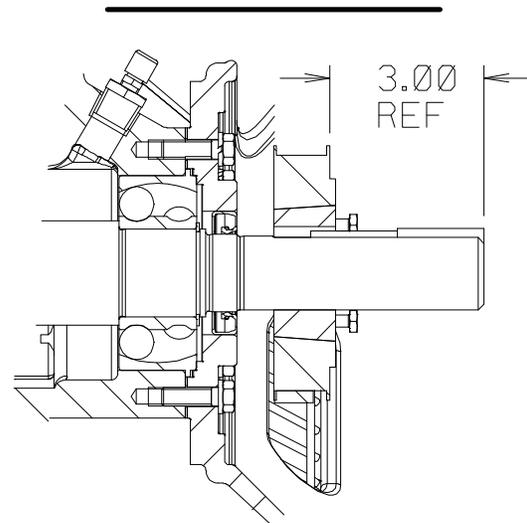

Figure 10. Drive Sprocket Positioning
Install the key (23, Figure 5) in the shaft keyway, making sure to leave room in the keyway for the drive key (23, Figure 5). Install the sprocket (24) and bushing (25) on the shaft to the dimension shown in Figure 10.
*When properly installed to the dimension shown in Figure 10, the key (23, Figure 5) **will not** extend fully through the bushing. This is an acceptable fit for this application.*